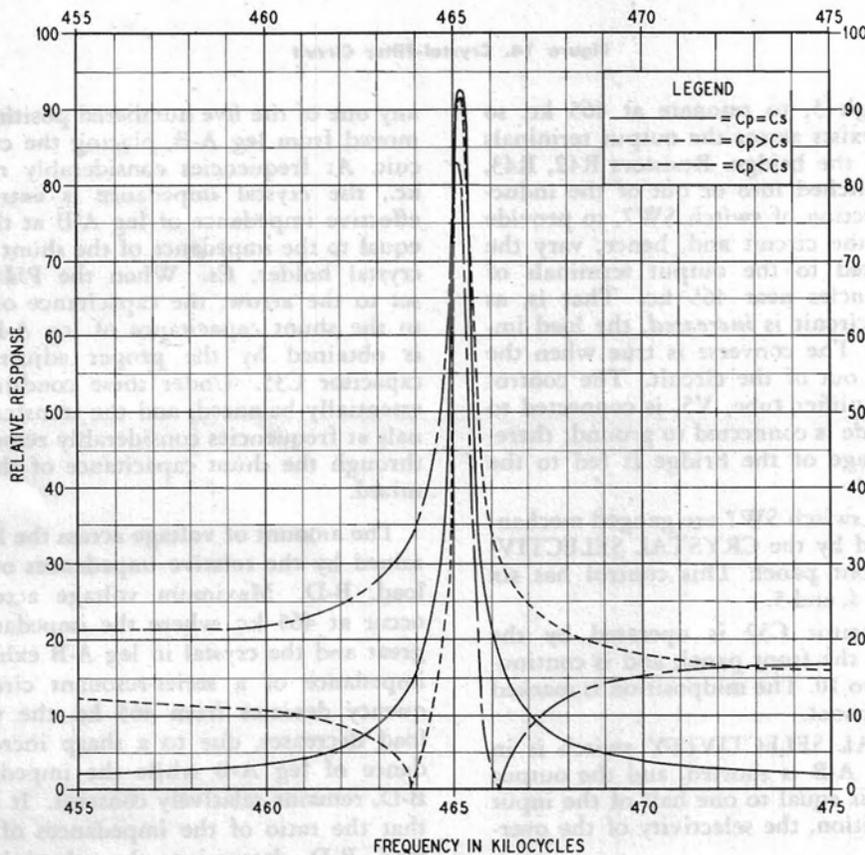

Figure 15. Selectivity Characteristics of Crystal-Filter Circuit
When the PHASING control is set to the arrow, the phasing capacitor, C32, is equal to the shunt capacitance of the crystal. For frequencies one or two kilocycles removed from 465 kc., the combined impedance of the crystal and its shunt capacitance in leg A-B will not be equal to the impedance of the phasing capacitor in leg B-C, and the selectivity will be as shown on the curve in figure 15. When the PHASING
11. Using figure 15 explain the action of the crystal-filter circuit at frequencies one or two kilocycles removed from 465 kc. when: